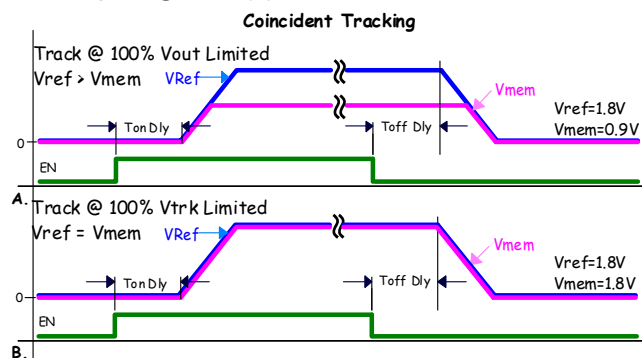

FIGURE 20. COINCIDENT TRACKING
Figure 23 is an example of a basic pin-strap tracking configuration. The VTRK pin is an analog input that, when tracking mode is enabled, the voltage applied to the VTRK pin performs as a reference for the device's output voltage. The ZL2106 offers two modes of tracking: coincident and ratiometric. Figures 20 and 21 illustrate the output voltage waveform for the two tracking modes.
- a. Track at 100% V_{OUT} limited. Member rail tracks the reference rail and stops when the member reaches its target voltage, Figure 20 (A).
- b. Track at 100% VTRK limited. Member rail tracks the reference at the instantaneous voltage value applied to the VTRK pin, Figure 20 (B).
The configuration settings for Figures 20 and 21 are shown below in Figure 22. In each case the reference and member rise times are set to the same value.
Tracking Configuration Figure 20 (A)
Tracking Configuration Figure 20 (B)